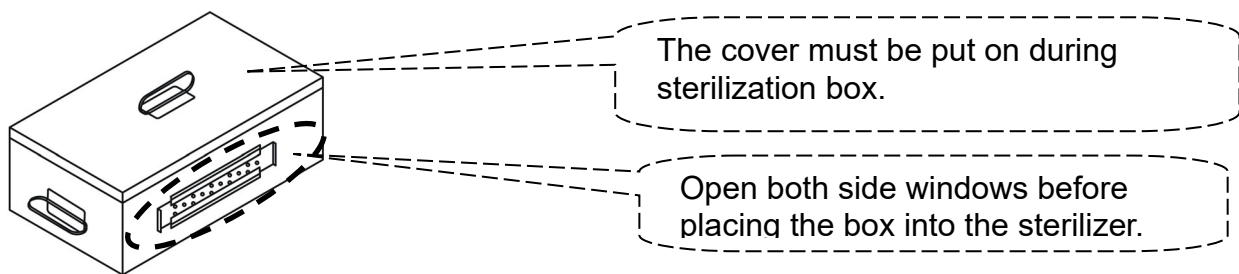

Figure 15
- D. Place the items to be sterilized and the sterilization indicator strips into the box as required. Remember to open both side windows before placing the box into the sterilizer as Figure 15.